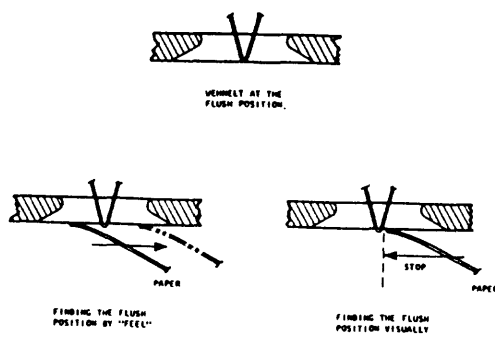

Fig. 4 - Filament installation.
- 4.4- Turn the grid cap CW until the filament tip is flush with the cap's surface. Check by gently scraping a straight edge of paper backwards (i.e., towards you) across the hole (Fig. 4, p. 36). When the filament tip emerges through the hole, a clicking noise will be heard as the paper scrapes across the tip (be careful not to break the tip);